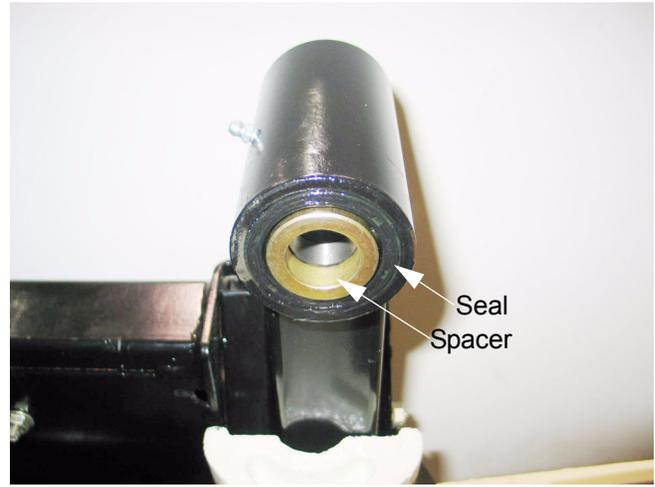

Figure 27.10
27.10. The spacer at the bottom provides a surface for the lip of the seal to ride against. See Figure 27.10.